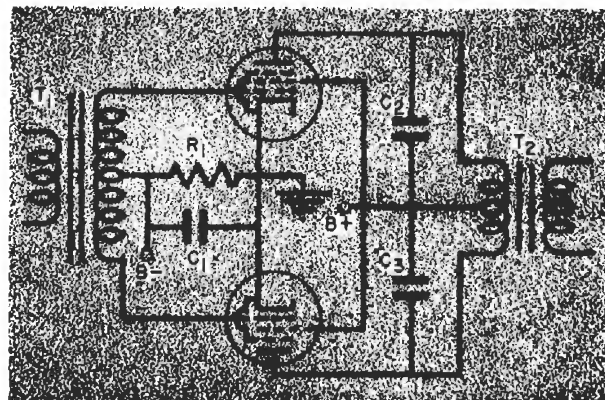

FIG. 23. A typical push-pull output stage.
stage, because this is usually the only stage where enough power is available to sustain the oscillations. A pentode output stage is particularly subject to these oscillations, because such a stage has high gain, has a tube with a relatively coarse screen grid structure (so that the inter-electrode capacity is high), and uses circuit elements which readily permit parasitic oscillations. This trouble is most common when the output stage is run as a class AB or class B push-pull amplifier, where a low-resistance input transformer must be used. A typical circuit is shown in Fig. 23.
► Manufacturers generally use condensers such as C_2 and C_3 of Fig. 23 in circuits where parasitics may develop, to make the plate load more capacitive. Such condensers should be right at the tube socket, a position which makes the effective length of the plate leads shorter, reducing further the inductance effects as well as the ability to feed back.
In the circuit shown in Fig. 23, the